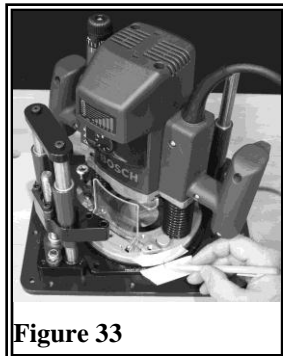

Figure 33
- Place the optional blank mounting plate on Lift and place your router in position ensuring handles, switch and variable speed are in optimal position. Apply strip of masking tape to the router and blank plate and draw a line referencing this position. (Figure 33)